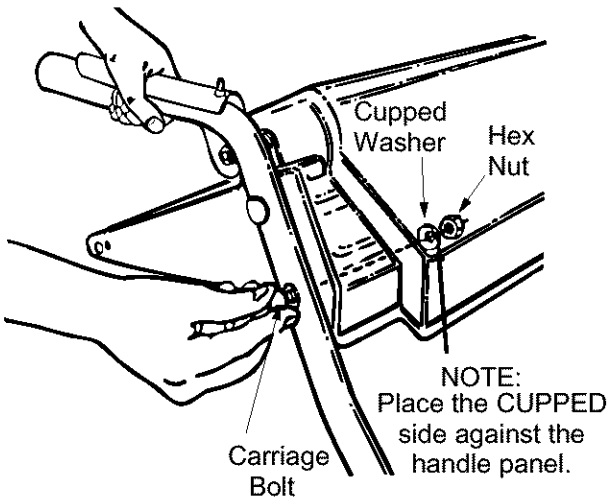

Figure 5
5. Fasten right side of the handle panel by inserting two carriage bolts through handle and handle panel (bolts must go through both the plastic and metal parts of the handle panel). Secure with cupped washers (cupped side against handle panel) and hex nuts. See Figure 5.